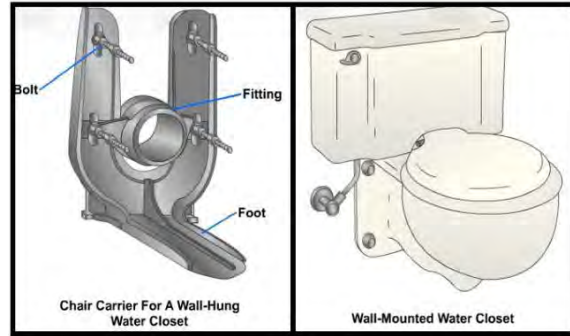

Figure 6-4 – Wall-mounted water closet.
7. A wall-mounted water closet is attached to the wall by a chair carrier, similar to the one shown in *Figure 6-4*. The chair carrier is positioned and bolted to the floor. A standard fitting is used to connect between the drain and the closet bowl after the chair carrier is bolted down. The fittings are for 4-inch iron or soil pipe. The bolt holes in the chair carrier are slotted to facilitate installation of the closet bowl.